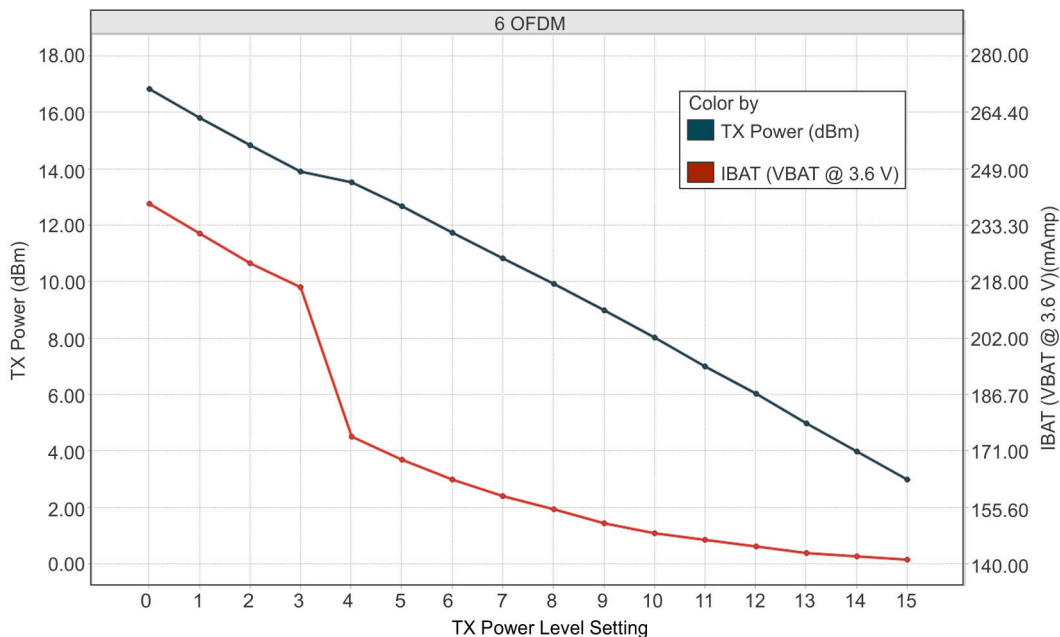
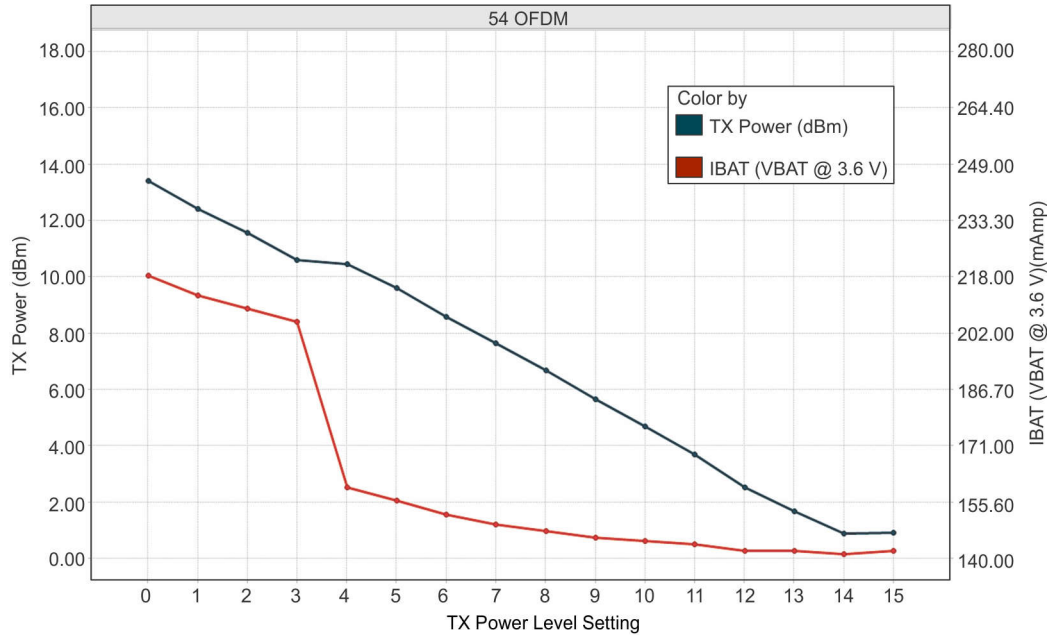

Figure 7-2. TX Power and IBAT vs TX Power Level Settings (6 OFDM)
Figure 7-3. TX Power and IBAT vs TX Power Level Settings (54 OFDM)
- (1) TX power level = 0 implies maximum power (see Figure 7-1, Figure 7-2, and Figure 7-3). TX power level = 4 implies output power backed off approximately 4dB.
- (2) The CC3120MOD system is a constant power-source system. The active current numbers scale inversely on the V_{BAT} voltage supplied.
- (3) The RX current is measured with a 1Mbps throughput rate.
- (4) DTIM = 1
- (5) The complete calibration can take up to 17mJ of energy from the battery over a time of 24ms. In default mode, calibration is performed sparingly, typically when re-enabling the NWP and when the temperature has changed by more than 20°C . There are two additional calibration modes that may be used to reduced or completely eliminate the calibration event. For further details, see the CC3120, CC3220 SimpleLink™ Wi-Fi® and IoT Network Processor Programmer's Guide.